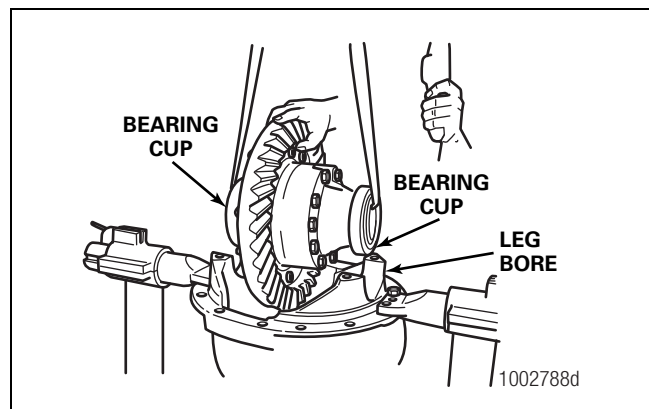

Figure 5.51
4. Install the bearing cups over the bearing cones that are assembled on the case halves. Figure 5.51.
5. Safely lift the differential and ring gear assembly and install it into the carrier. The bearing cups must be flat against the bores between the carrier legs. Figure 5.51.